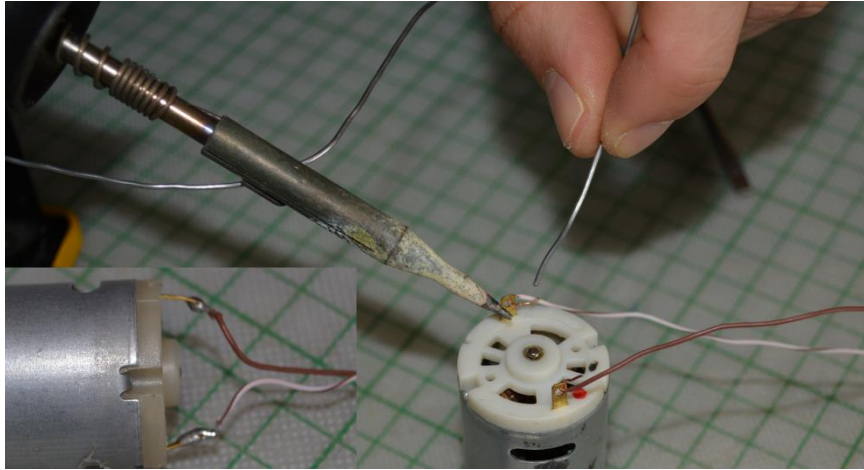

Figure 26
- Use the soldering iron to weld the wires to the motor's terminals as shown in Fig. 26.